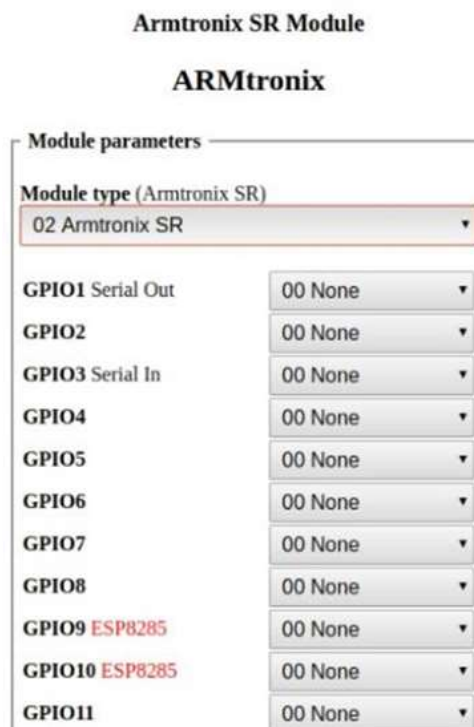

Figure 14: List of ESPs GPIOs available in dropdown list
1. click on the Configuration option as shown in the figure 14,